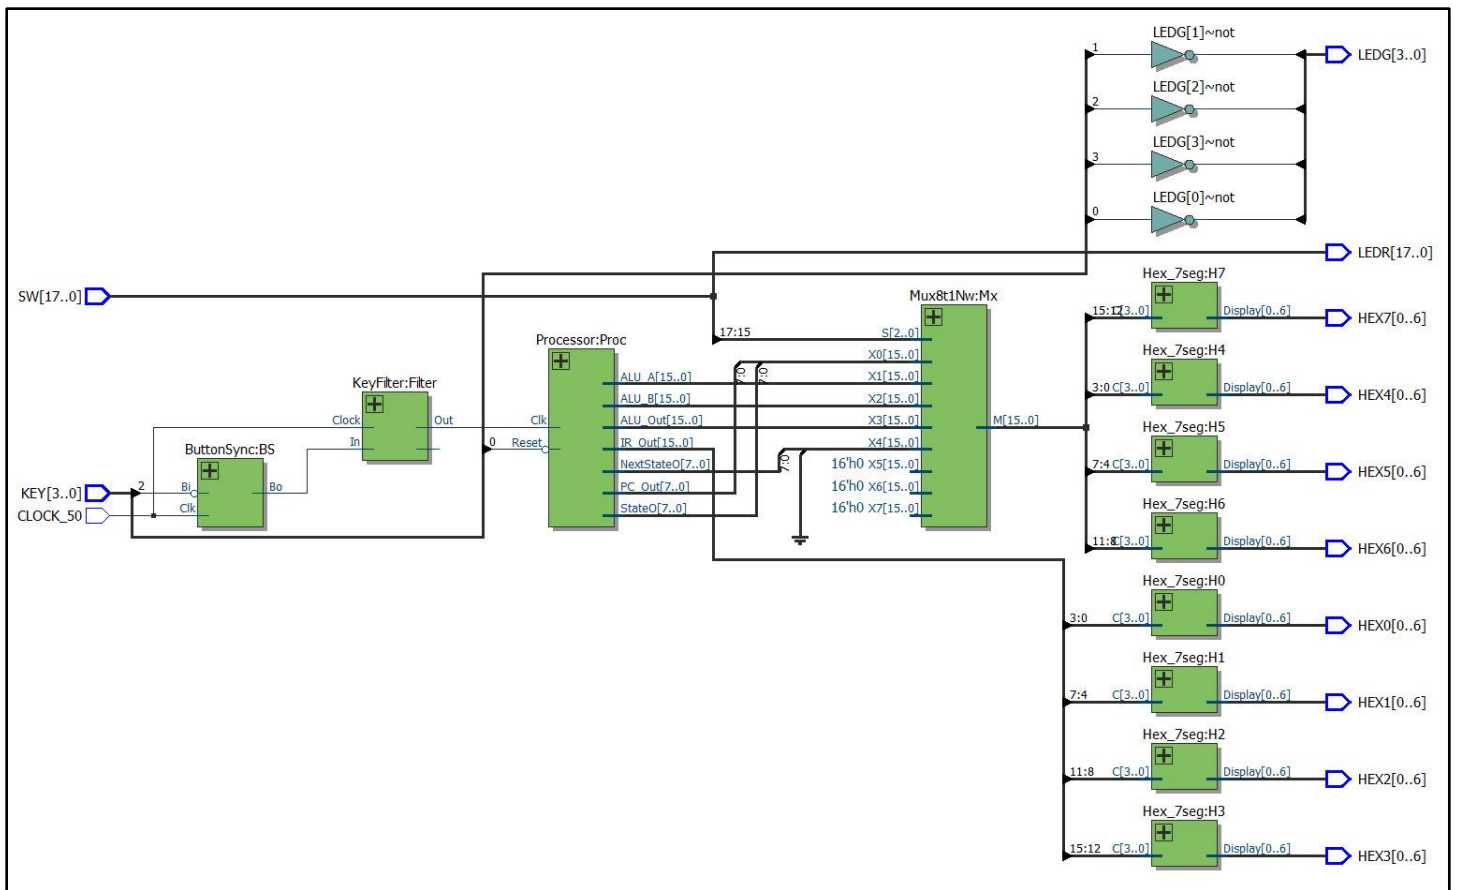

Figure 1. Top-level RTL View (for reference only)
- Your top level module (**Project.sv**) should instantiate a processor module, a multiplexer for selecting displays (described above) and a key conditioner (described below). Your top level RTL view should look very close to the picture as shown in Figure 1 (**just for references!**).